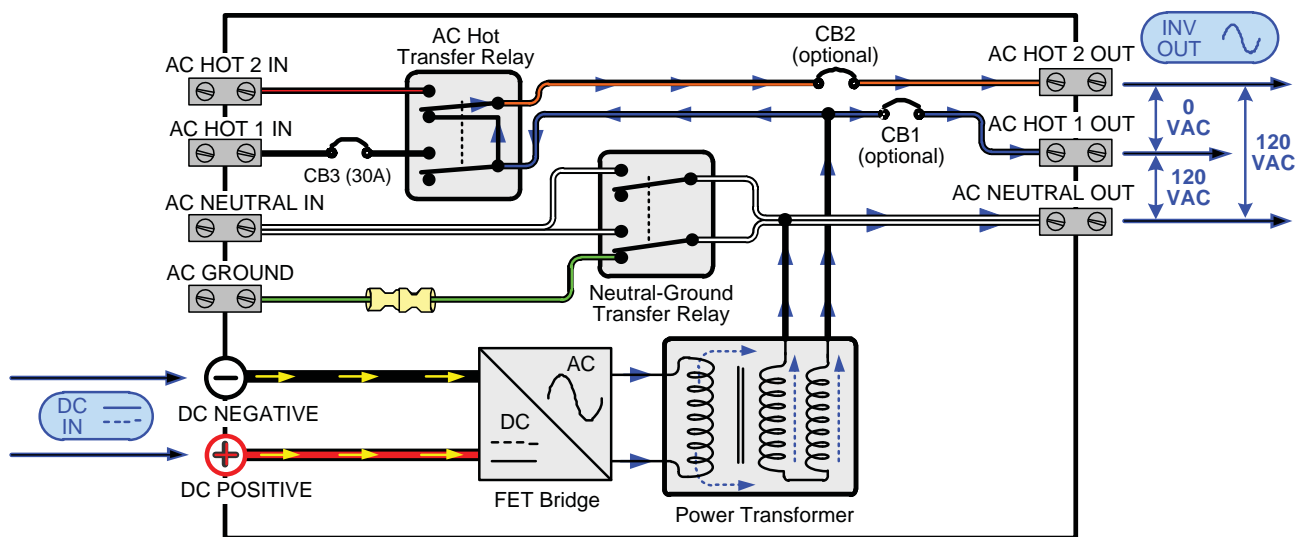

Figure 3-1, Power Flow - Inverter Mode
**Inverting** – When a load greater than 5 watts is connected to the inverter output, the MS Series inverts the DC power from the battery and supplies 120 VAC power to your sub-panel. The inverter’s green LED flashes once every 2 seconds (medium flash) to indicate it is inverting. The amount of time the inverter can be inverting and providing power is directly related to the amount of AC loads that are connected, and the capacity of the battery bank. Refer to Figure 3-1 to see the flow of power from the DC input to the AC output while in the Inverter mode.